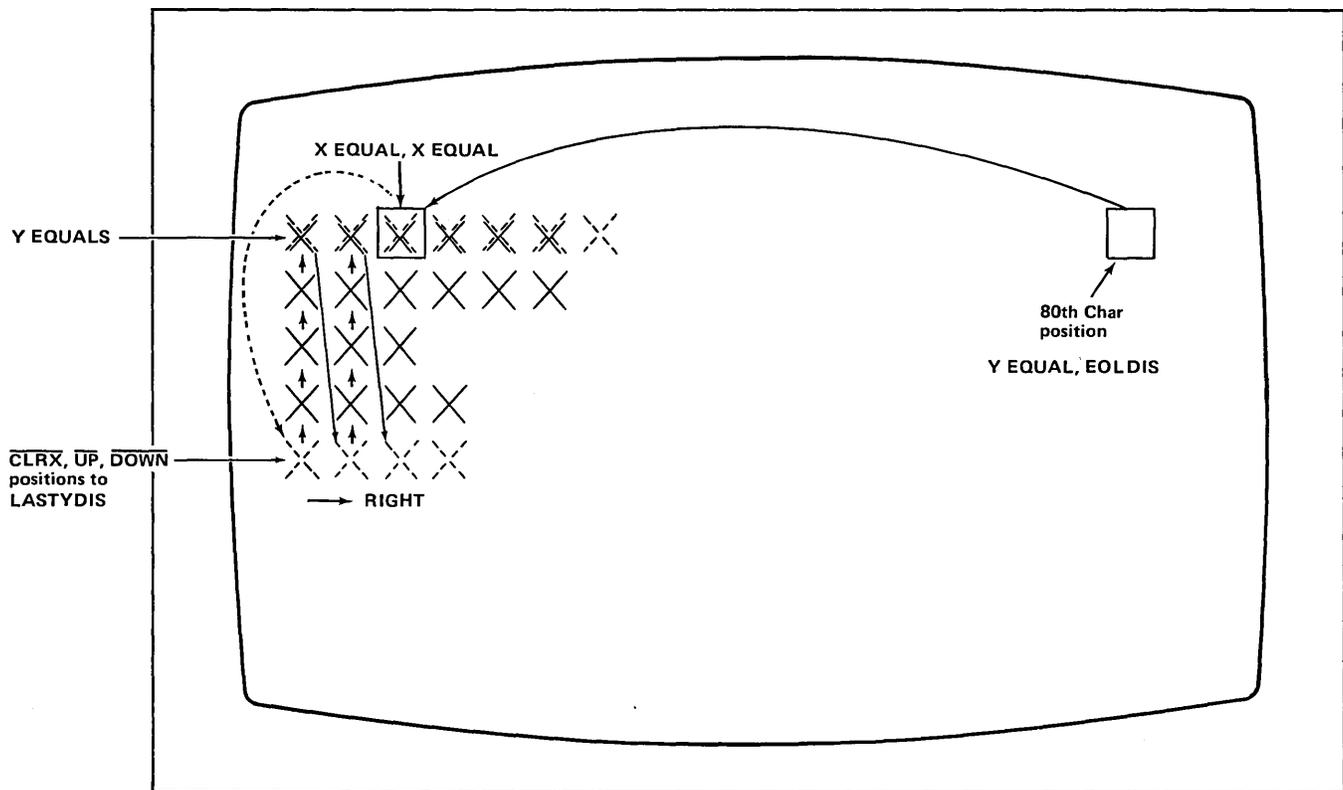

Fig. 6-9. Deleting a line.
**DELETE LINE.** Refer to Fig. 6-9. Insert Line also sets  $\overline{DMA}$  active.  $\overline{UP}$  and  $\overline{DOWN}$  are simultaneously asserted by the Edit Card to jam the Y Display Register to the bottom line ( $LSTYDIS$ ).  $\overline{CLR\overline{X}}$  then causes the count from the Display Register to reflect the first character position on the bottom line; the character at that address is read from memory. If data resides in memory at that location, it is latched into the Edit Card. The Edit Card holds  $\overline{UP}$  active so that the Y Display Register can be clocked by  $\overline{STEP}$  signals. Each  $\overline{STEP}$  time the display address moves up one line, latching a new character into the Edit Card latches and a short time later dumping the previous character back onto the minibus to be read back into the memory. However, it is read back into memory at a location that is one line above its old location. This cycle repeats until the Y Display Register count equals the count from the Y Cursor Register. At this time,  $YEQUAL$  goes true.  $\overline{UP}$  and  $\overline{DOWN}$  are again simultaneously asserted to jam the Y Display Register back to the bottom line (at  $\overline{STEP}$  time).  $\overline{RIGHT}$  is asserted and again at  $\overline{STEP}$  time the X Display Register is increment to the next column of characters. Again,  $\overline{UP}$  remains active so that the Y Display Register can be clocked by  $\overline{STEP}$ .